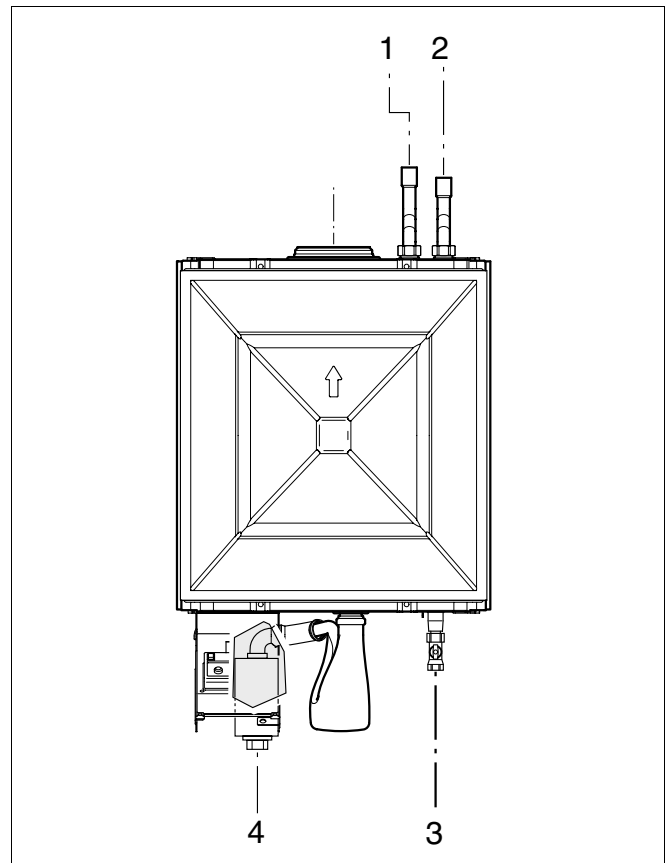

Fig. 4 Pipe connections
- Take the CH flow connection pipe and the CH return connection pipe out of the box and connect to the condensing gas boiler (fig. 4, item 1 and 2).
- A gas service valve is supplied with the unit. Take it out of the box and connect it to the boiler see fig. 4, item 3 with approved P.T.F.E.-tape. Connect to gas supply according to the relevant standards.
Key to fig. 4: